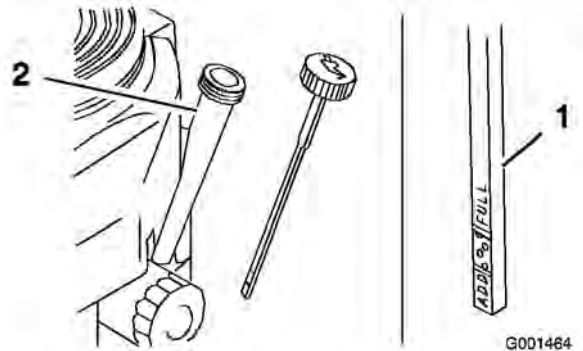

Figure 28
4. Clean around the oil dipstick (Figure 28) so that dirt cannot fall into the filler hole and damage the engine.
5. Unscrew the oil dipstick and wipe the end clean (Figure 28).
6. Slide the oil dipstick fully into the filler tube, but do not thread onto tube (Figure 28).
- Slowly pour approximately 80% of the specified oil into the filler tube (Figure 28).